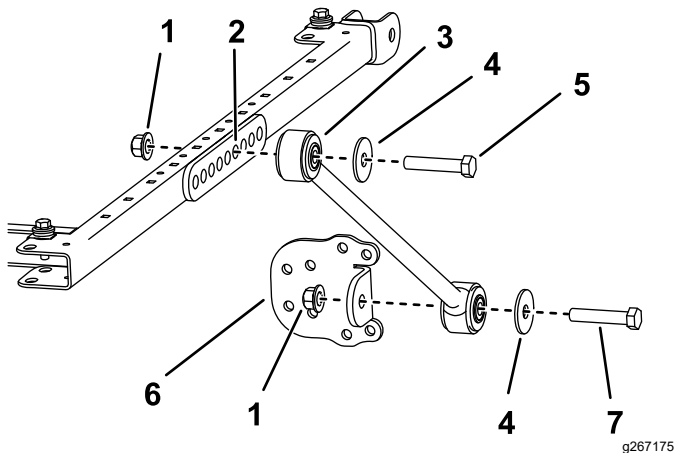

Figure 24
9. On each side of the sunshade frame, loosely mount a brace to the sixth hole of the bracket mount with a bolt (1/2 x 2-3/4 inches), washer (1/2 inch), and flange nut (1/2 inch) as shown in Figure 24.
10. Loosely install a brace bracket to each brace with a bolt (1/2 x 2-1/2 inches), washer (1/2 inch), and flange nut (1/2 inch) as shown in Figure 24.